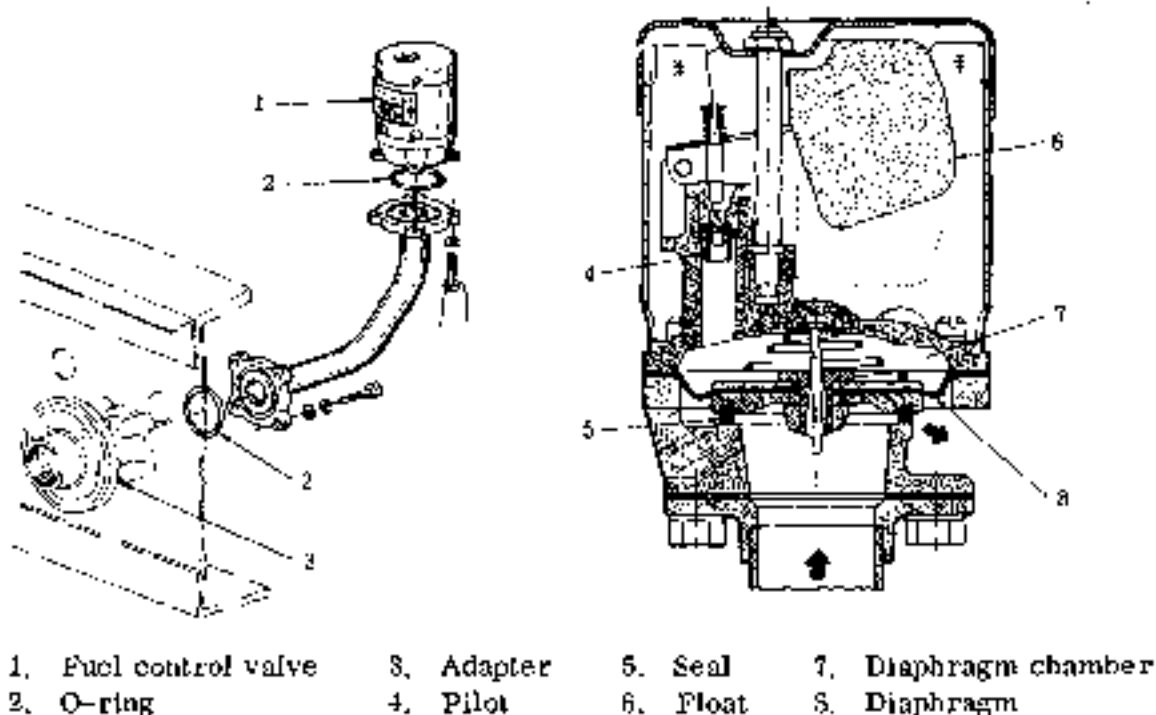

Fig. 7-15 Installation of fuel control valve
5.5.1 REMOVAL AND INSTALLATION (See Fig. 7-15)